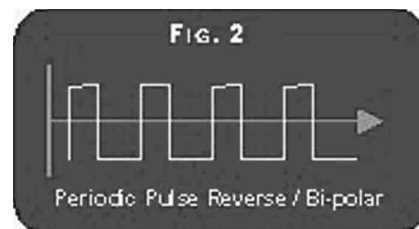

Fig. 2—Periodic pulse reverse or bi-polar pulse.
2. Periodic Pulse Reverse or Bi-polar pulses (Fig. 2)